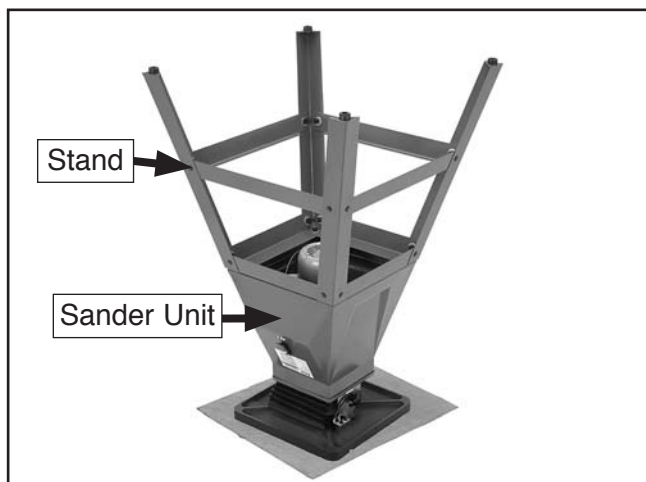

Figure 13. Placing stand on machine.
6. With the help of an assistant, carefully turn the sander upside-down. To protect the table surface, place a piece of clean cardboard beneath the sander. Place the stand upside down on top of the sander, as shown in **Figure 13**.